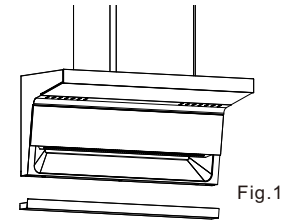

Fig.10
- Hold both ends of the bottom of the Oil collector with your hands, pull it vertically and gently forward, and then you can remove the Oil collector(Fig.10).